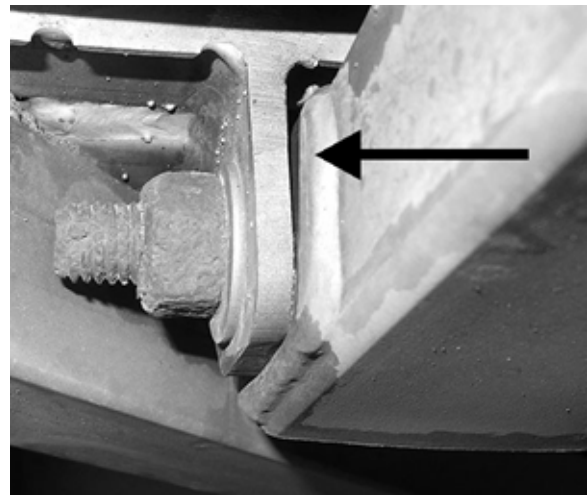

FIGURE 18: VISIBLE GAP ON TRANSVERSAL SCREW JOINT
- On the transversal screw joints (Figure 18) any visible gap between cradle support tubing and vehicle frame mounting lugs is not acceptable.